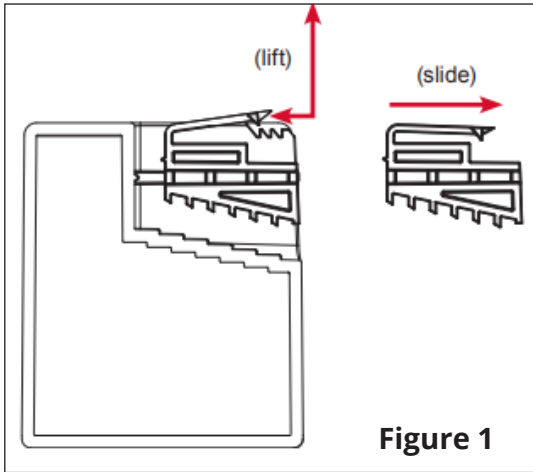

Figure 1
1. Remove the cable clip from the cable weight by lifting the tab upward until it releases from the notch and pull directly away (Figure 1).